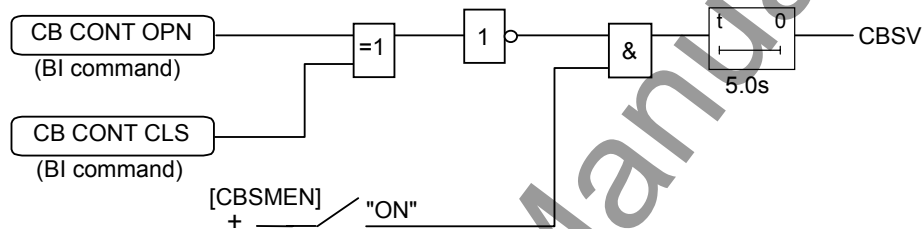

Figure 3.3.3 CB State Monitoring Scheme Logic
Circuit breaker state monitoring is provided for checking healthy of circuit breaker (CB). If two binary inputs are programmed to the functions 'CB CONT OPN'(CBOPN) and 'CB CONT CLS'(CBCLS), then the CB state monitoring function becomes active. In normal circumstances these inputs are in opposite states. Figure 3.3.3 shows the scheme logic. If both show the same state during five seconds, then a CB state alarm CBSV outputs and "Err:CB" and "CB err" are displayed in LCD message and event record message respectively.